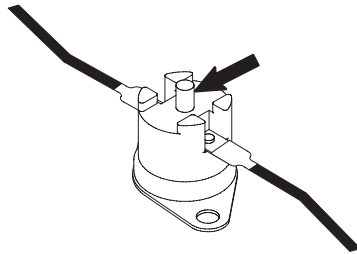

Figure 11-10 Location of the reset button on a thermostat
4. See Figure 11-10. Press the reset button on the thermostat.